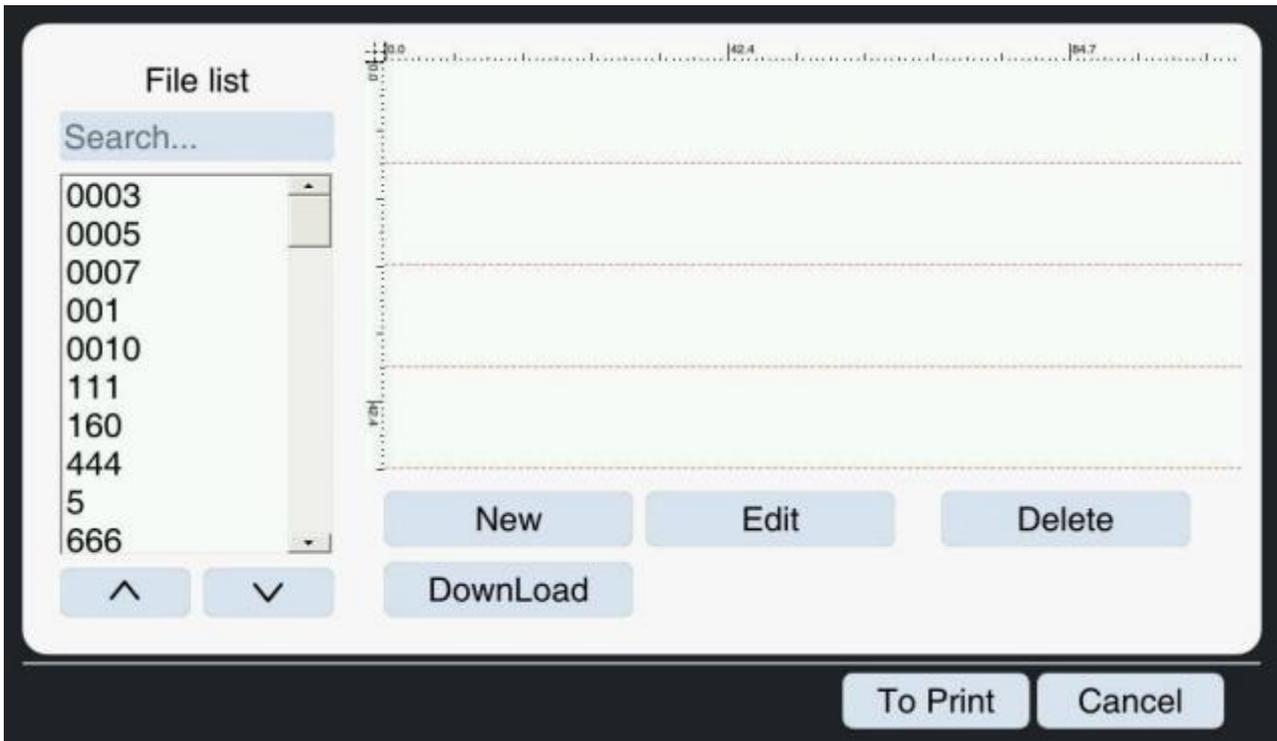

Figure 5-14 File Loading Interface
1. Clicking the  button on the main interface, and the system will enter the file loading interface. As shown in Figure 5-14.